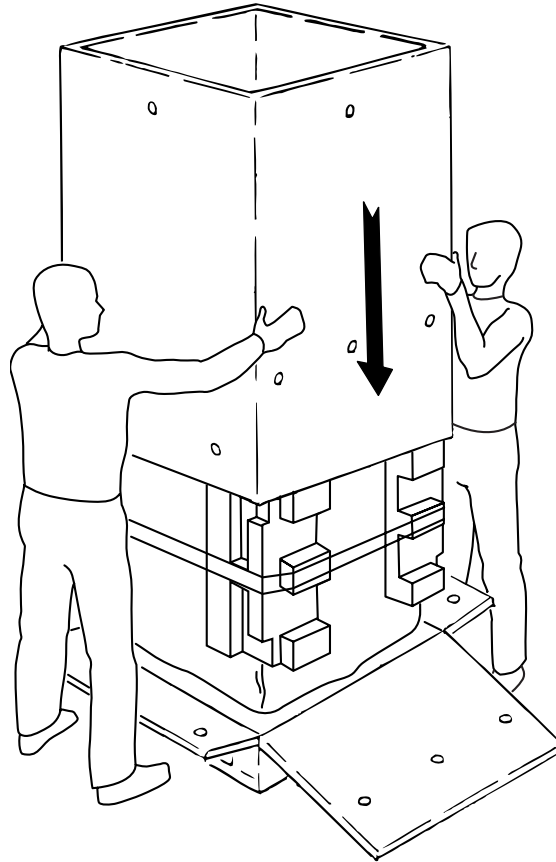

Figure A-18 Replace Sleeve
9. Replace the cardboard sleeve, shown in Figure A-18.